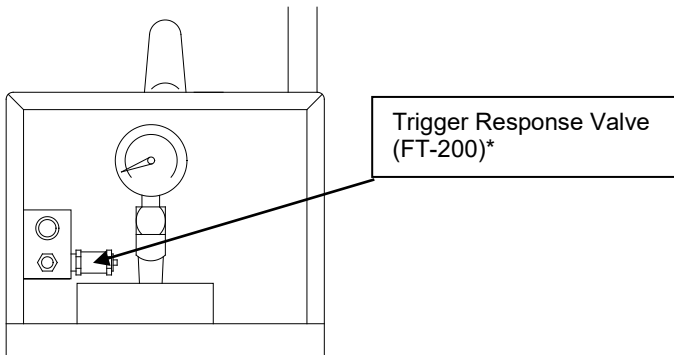

Figure 5.3-1
- (a) Trigger response valve requires adjustment. See Figure 5.3-1.